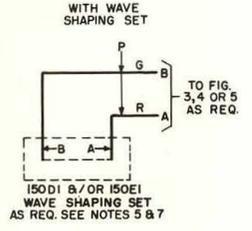

FIG. 3
- LINE AND GROUND CONNECTIONS TO THE CABINET TERMINAL STRIP SHALL BE MADE PER FIG. 3, 4 OR 5 AS REQUIRED.